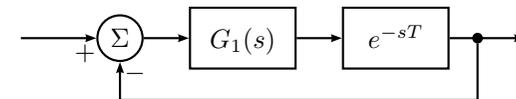

Figure 5.8a
5.8 A block diagram for a control system with time delay is shown in Figure 5.8a. The system G_1 has no poles in the right half plane.